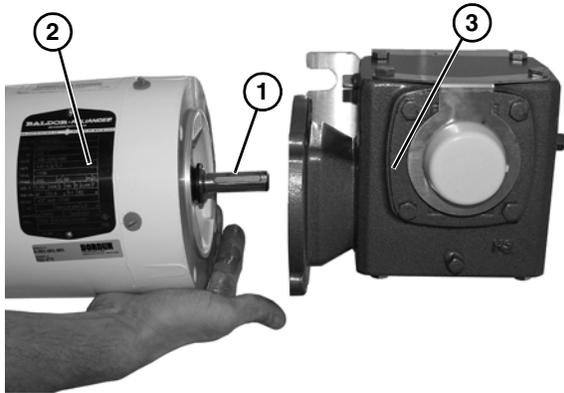

Figure 27
11. With key (Figure 27, item 1) in keyway, slide motor (Figure 27, item 2) and gear reducer (Figure 27, item 3) together.